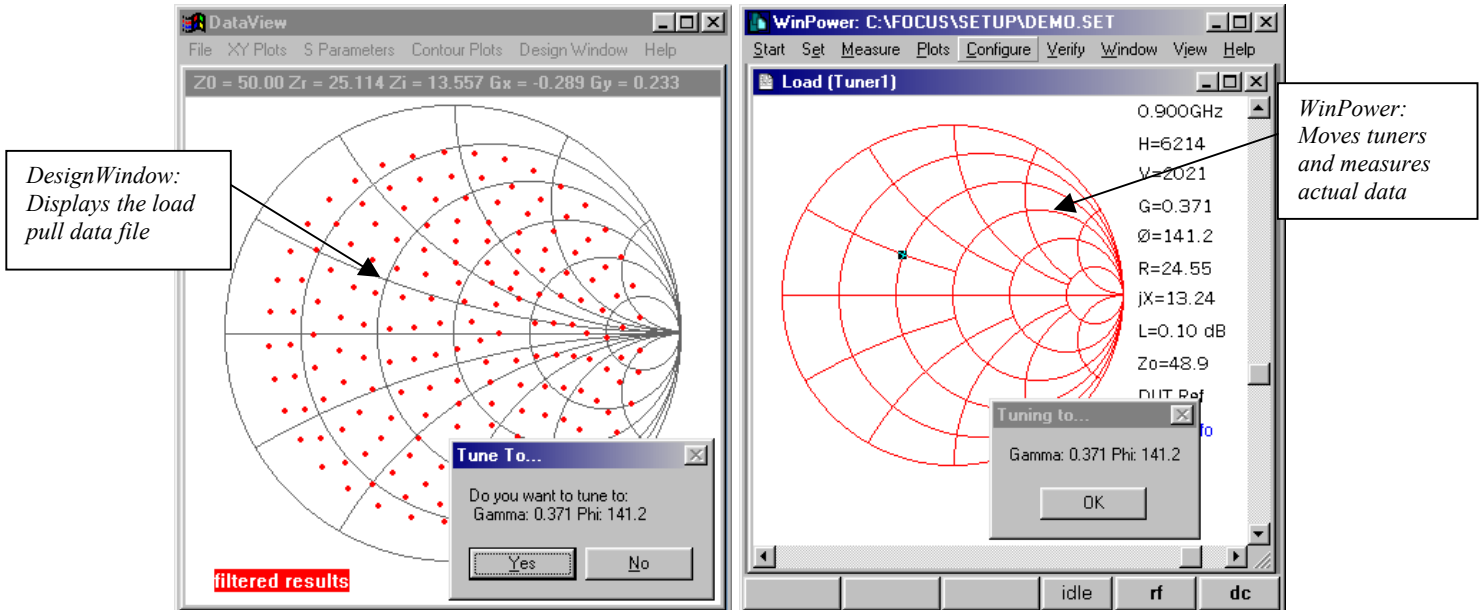

Figure 2: Right clicking in *DesignWindow* plot “Tunes-to” a Gamma value in *WinPower*
- “Tune-to” impedance within *DesignWindow* plot, using Focus Microwaves’ WinPower software (Figure 2).